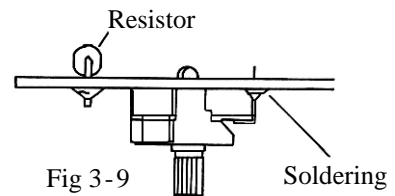

Fig 3-9
② - 3	Is there any mistake in mounting of the resistors and diodes ? (Position of installation, polarity of the diodes, etc.)
④	Is the zero $\Omega$ adjuster inserted from the solder side (green side)? Is the zero $\Omega$ adjuster installed without tilt? (See Fig 3-9)